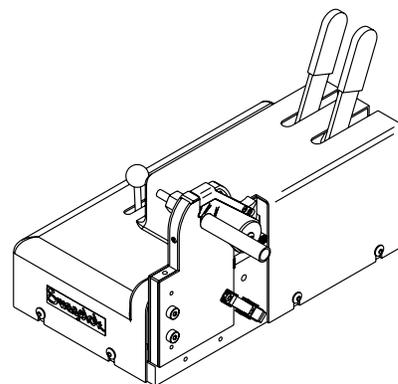

Figure 27 Clamping the Work Piece
7. Clamp the work piece into place. See Figure 27.